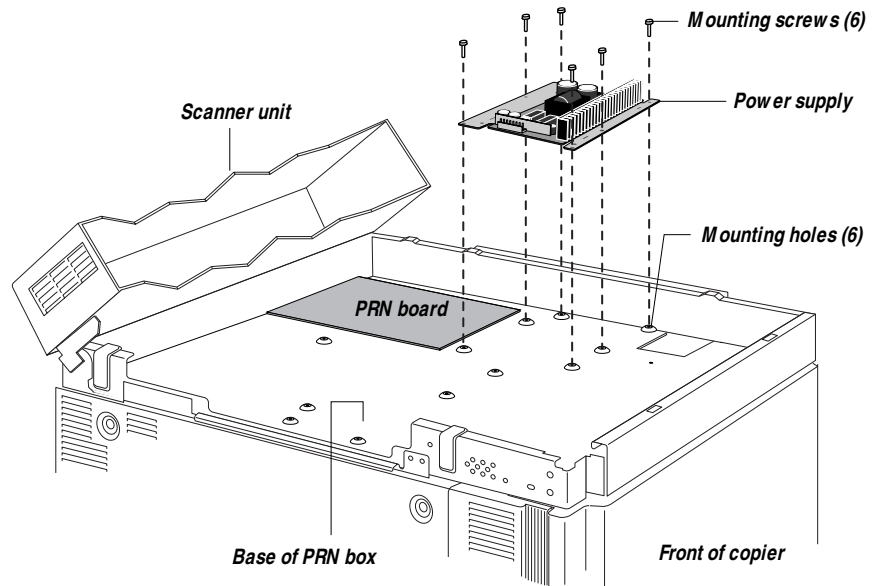

Figure 2-7 Installing the power supply
3. ***Place the power supply on the mounting holes at the base of the PRN box (see Figure 2-7 on page 2-9).***